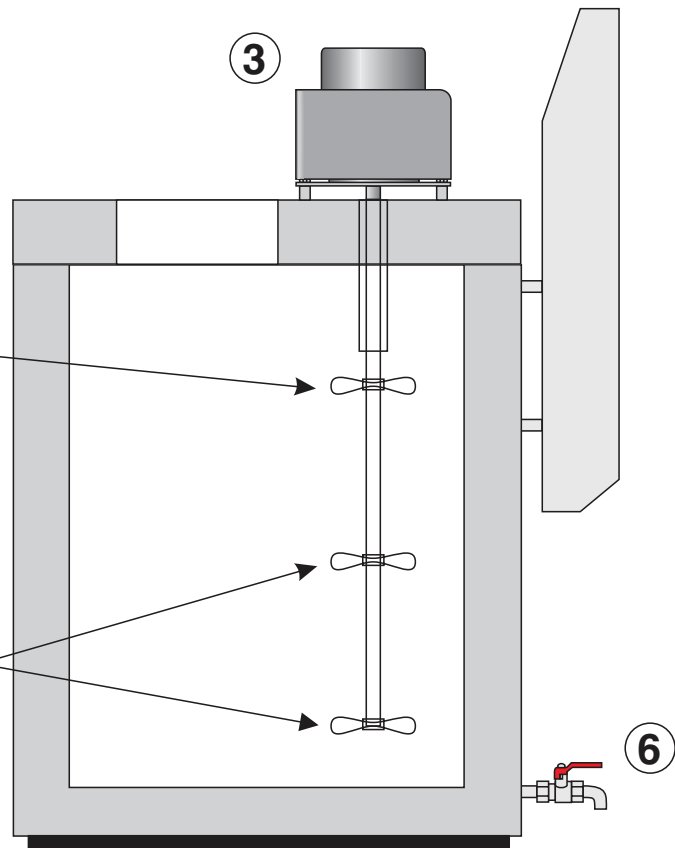

Figure 4 Typical 6020 Series Calibration Bath
(5) The heater power switch is used to select the appropriate heater power levels for heating and controlling temperatures.
The bath tank and lid assembly includes: (1) the tank, (2) the control probe, (3) the stir motor, (4) the access hole, (5) the access hole cover, and (6) the bath drain. (See Figure 4 on page 24.)
(1) The bath tank is constructed of stainless steel and is very resistant to oxidation in the presence of most chemicals and over a wide range of temperatures.
(2) The control probe provides temperature feedback signal to the controller allowing the controller to maintain a constant temperature. The control probe is a precision platinum resistance thermometer (PRT). The control probe is delicate and must be handled carefully. The probe is placed in the small hole in the top of the bath so that the probe tip is fully immersed in the bath fluid. The probe cable connects to the bath at the probe connector on the back panel.
(3) The stir motor is mounted on the bath tank lid. It drives the stirring propeller to provide mixing of the bath fluid. Proper mixing of the fluid is important for good constant temperature stability. The stir motor power cord plugs into the back of the bath at the power socket labeled “STIRRER”.
(4) On the bath lid is a large rectangular access hole. This hole is used for filling and emptying the bath with fluids and placement of thermometers and devices into the bath. When possible the access hole should be covered. The **working area** is defined as one inch from the sides and bottom and three inches from the top of the fluid.
(5) An access hole cover is recommended to cover the large square access opening in the top of the bath. This improves bath temperature stability, prevents excess fluid evaporation or fumes and increases safety with hot fluid. The user may drill or cut holes in the cover to accommodate the instruments to be calibrated or immersed in the bath. Spare covers are available from Hart Scientific.
(6) A drain valve is provided for ease of removing the fluid media from the bath. Always use a container of adequate size to hold the **full load** of fluid. Some oils are more easily drained at higher temperatures. (See caution note below.)